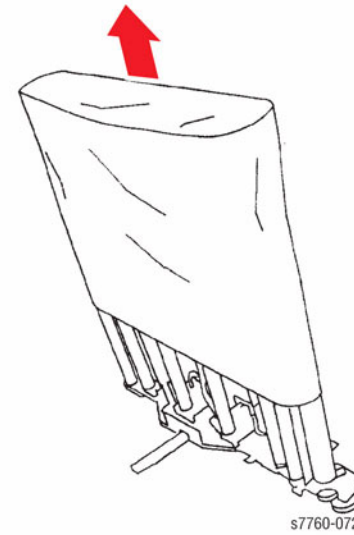

Figure 9 Removing Transfer Belt
12. Remove the Transfer Belt (Figure 9).